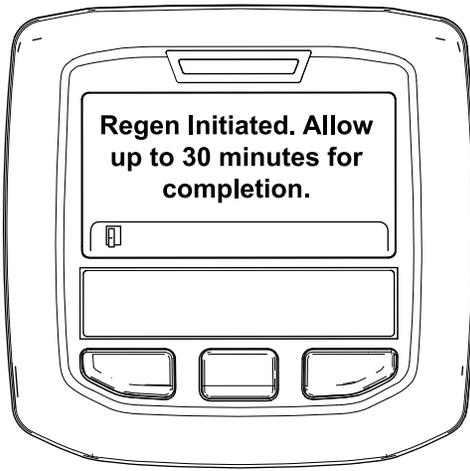

Figure 38
- If the regeneration is allowed, the "Regen Initiated. Allow up to 30 minutes for completion" message displays in the InfoCenter, wait for the machine to complete the parked regeneration process (Figure 38).